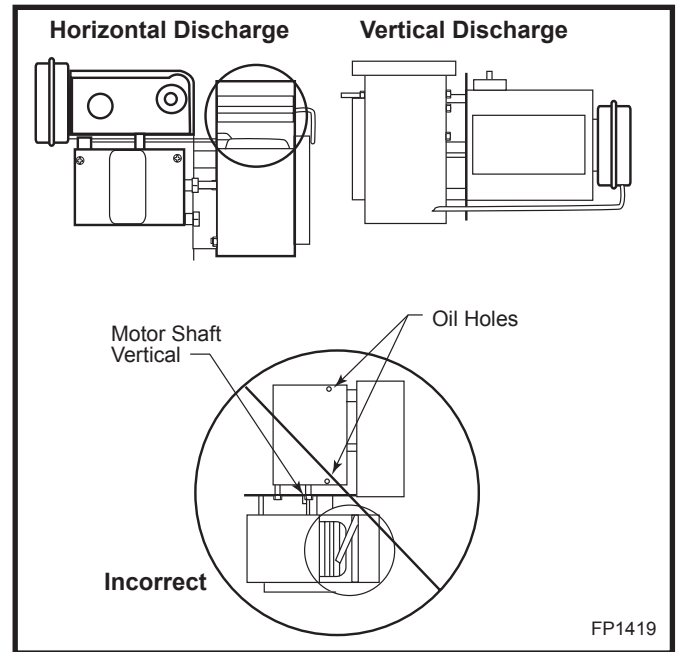

Fig. 3 The Power Venter must be mounted with motor shaft horizontal.
2. Power Venter must be mounted with motor shaft horizontal to ensure proper operation of the fan proving switch and to prevent motor bearing wear. (Fig. 3)